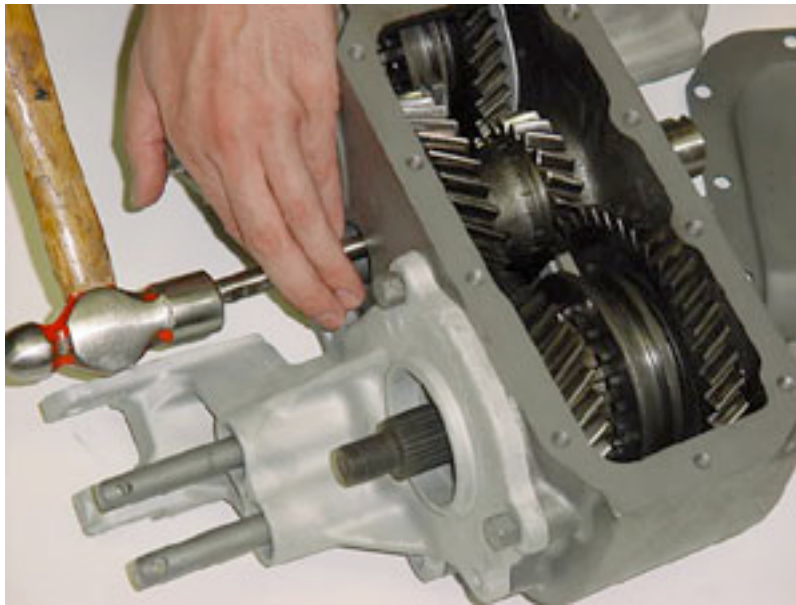

FIG: 2
2) Remove the 5/16" retainer bolt and plate for the intermediate shaft. Using a brass or wood drift, remove the intermediate shaft as shown (Fig.2).